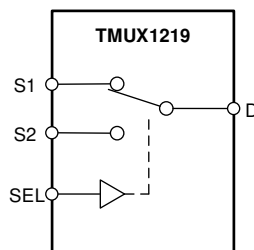

**Figure 15. Bandwidth Measurement Setup**
Bandwidth is defined as the range of frequencies that are attenuated by less than 3 dB when the input is applied to the source pin (Sx) of an on-channel, and the output is measured at the drain pin (D) of the device. Figure 15 shows the setup used to measure bandwidth.